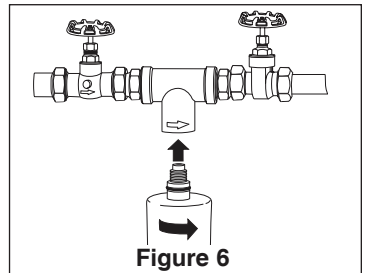

Figure 6
- Screw cartridge to the right (clockwise) into the SF18-S filter head. Turn on main water supply, open valves and check for leaks. (Figure 6)